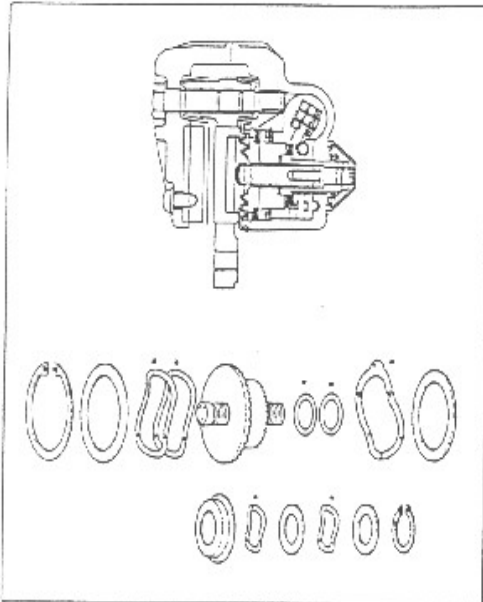

Fig. 3-33
- a. Apply PBC grease (high load resisting grease) to oblique-lined sections and *marked parts in Fig. 3-33.